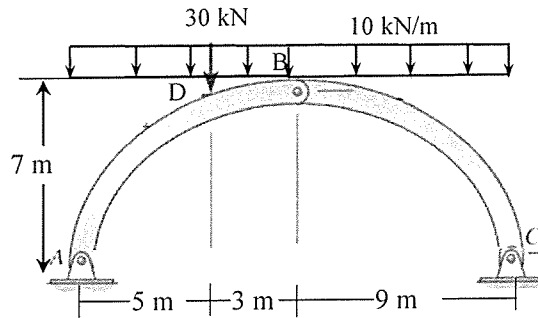

Fig.B2
6. The three-hinged arch is subjected to the loading shown in **Fig.B2**. Analyze the arch to determine the reactions at A and C, and Draw the bending moment diagram. [5]